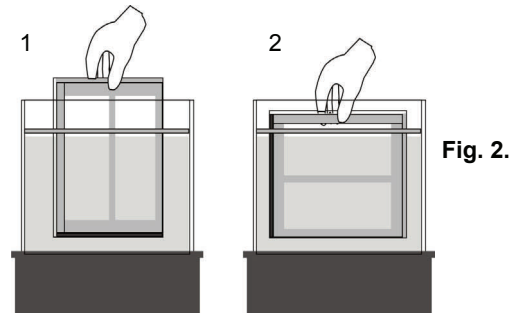

Fig. 2.
9. Place all gel cassettes and blank cassettes into the sealing manifold of the Ettan DALT*twelve* (fig.2). Take care that the silicone rubber sealings do not bend downwards.